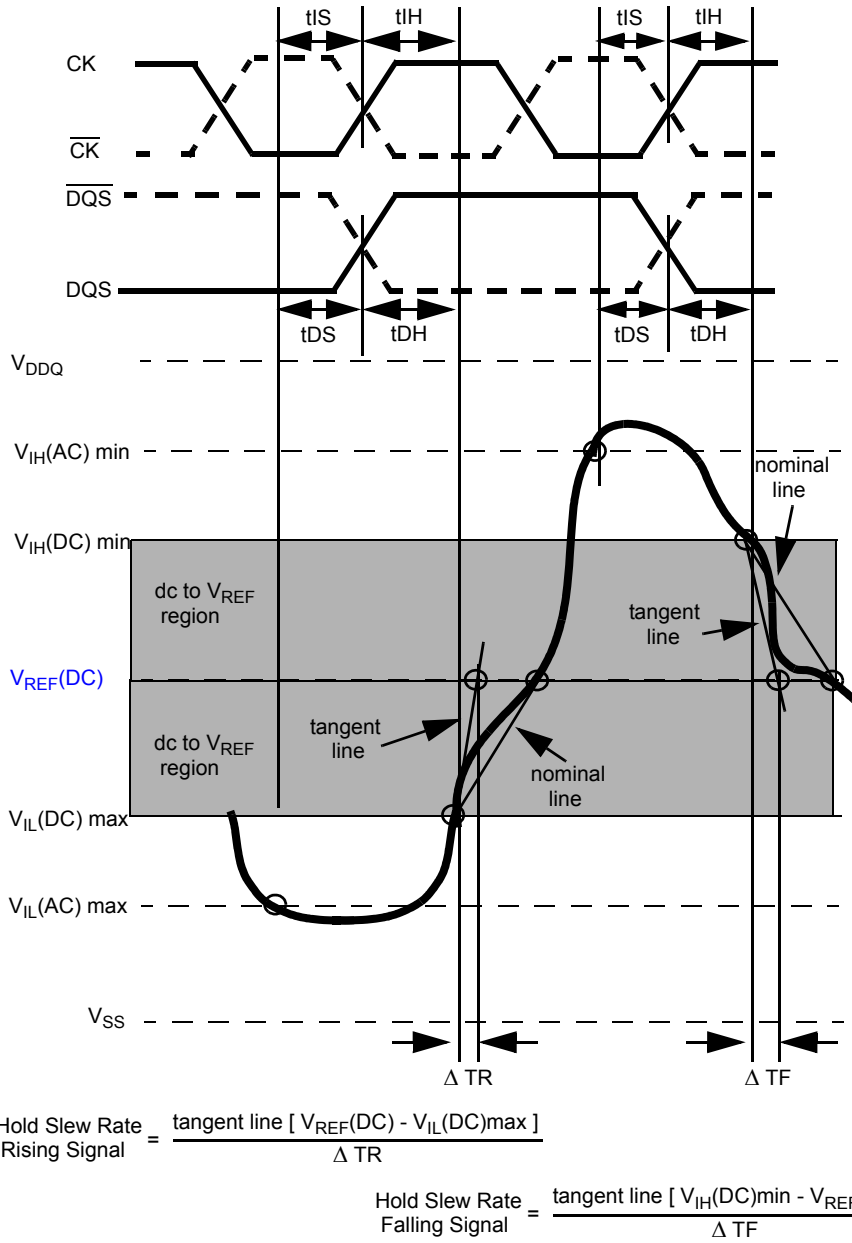

Figure 28. Illustration of tangent line for hold time t_{DH} (for DQ with respect to strobe) and t_H (for ADD/CMD with respect to clock)
Hold (tDH) nominal slew rate for a rising signal is defined as the slew rate between the last crossing of VIL(DC)max and the first crossing of VREF(DC). Hold (tDH) nominal slew rate for a falling signal is defined as the slew rate between the last crossing of VIH(DC)min and the first crossing of VREF(DC) (see Figure). If the actual signal is always later than the nominal slew rate line between shaded 'dc level to VREF(DC) region', use nominal slew rate for derating value. If the actual signal is earlier than the nominal slew rate line anywhere between shaded 'dc to VREF(DC) region', the slew rate of a tangent line to the actual signal from the dc level to VREF(DC) level is used for derating value (see Figure 28).